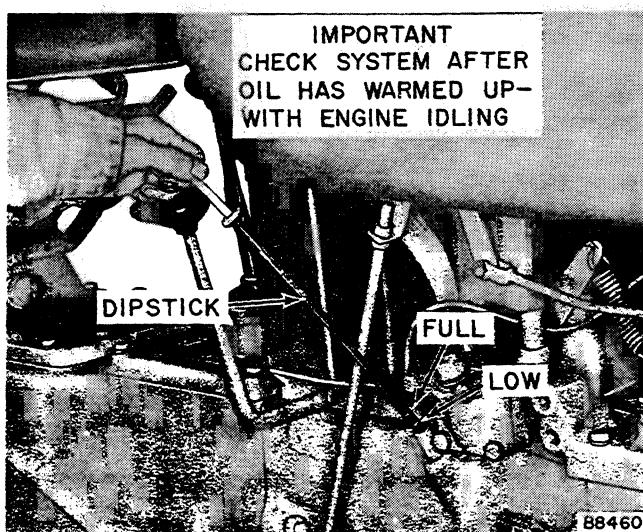

Figure 18 — Checking Torque Converter Oil Level
3. Place the Shuttle Shift lever in neutral position and have the engine IDLING. Check the oil level with the dipstick, see Figure 18. The most accurate reading will be made if the dipstick is held with the curved top toward the rear, then inserted and withdrawn very rapidly. This will minimize the chance of oil being thrown on the dipstick by gears.